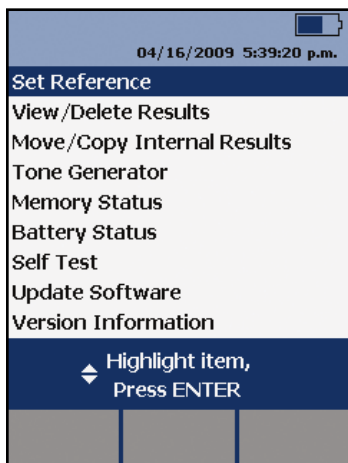

Figure 4
- Step A. Turn the rotary switch to “Special Functions” and choose “Set Reference” (**Figure 4**).